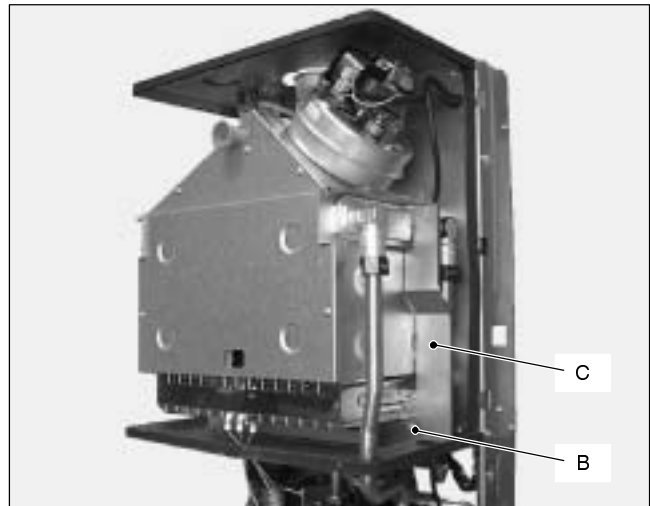

Fig. 79
- 3b For model M90E.28S and M90E.32S remove also the plate C (see Fig. 79 on page 38).
- 1b For model M90E.28S and M90E.32S remove the screw *B* and the plate *C* (Fig. 79).